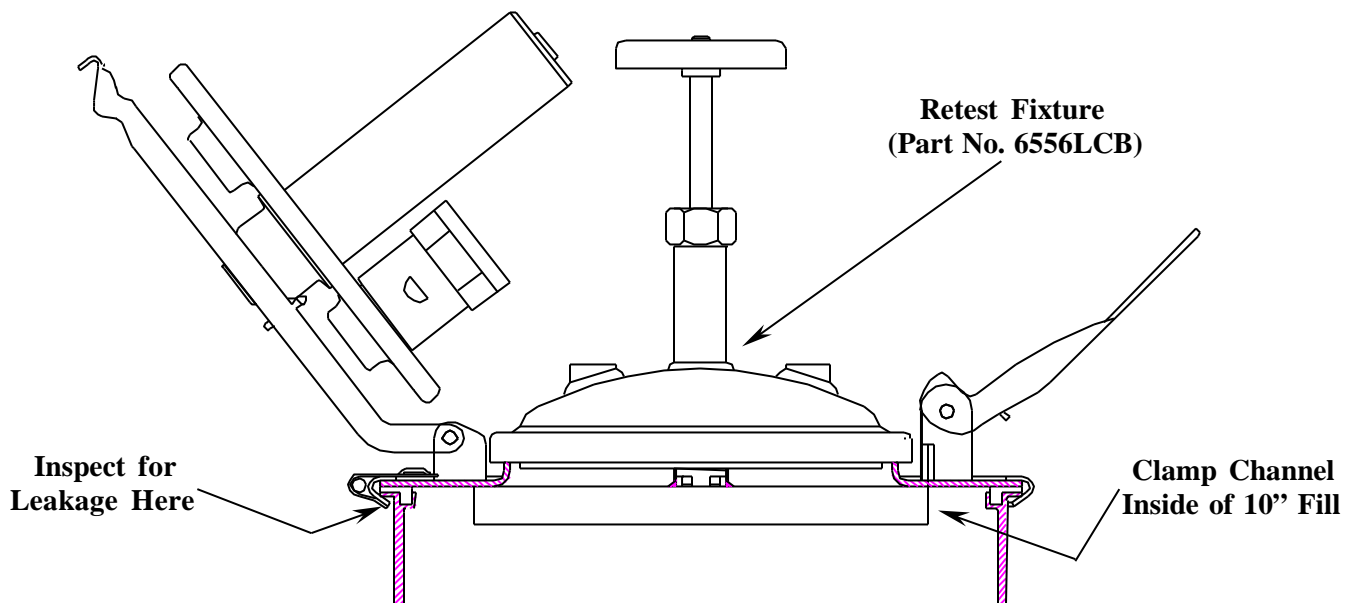

Figure 2
- 3.1.4. Install Betts Retest Fixture (part no. 6556LCB) to seal the 10" opening. See figure 2.